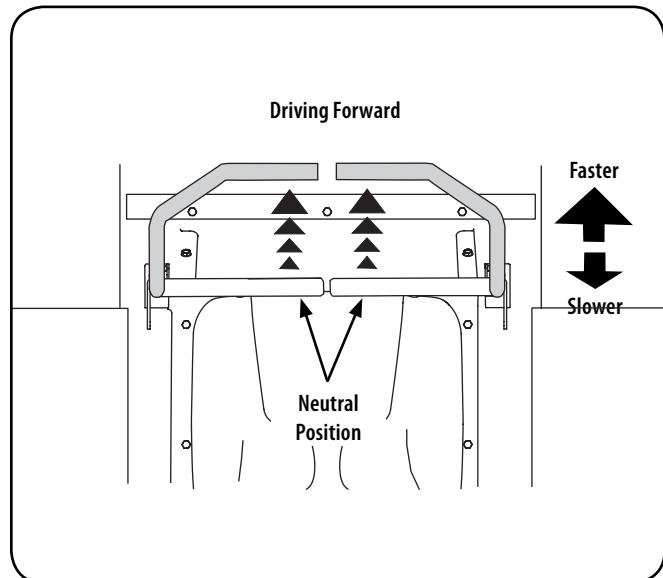

Figure 2
- Slowly and evenly move both drive control levers forward. The tractor will start to move forward. See Figure 2.